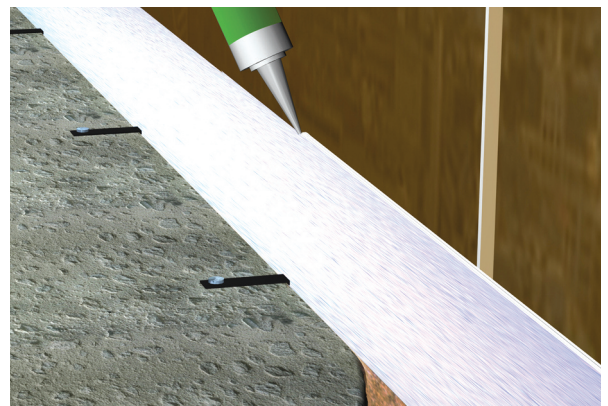

Figure 2 - Apply Intumastic Eco bead to all edges and joints
- 7) To complete the installation, run a 5mm bead of Intumastic Eco along all joints (Figure 2) or seal joints and edges with Intucoat Eco. This will leave a continuously sealed face providing a good smoke and fire seal.